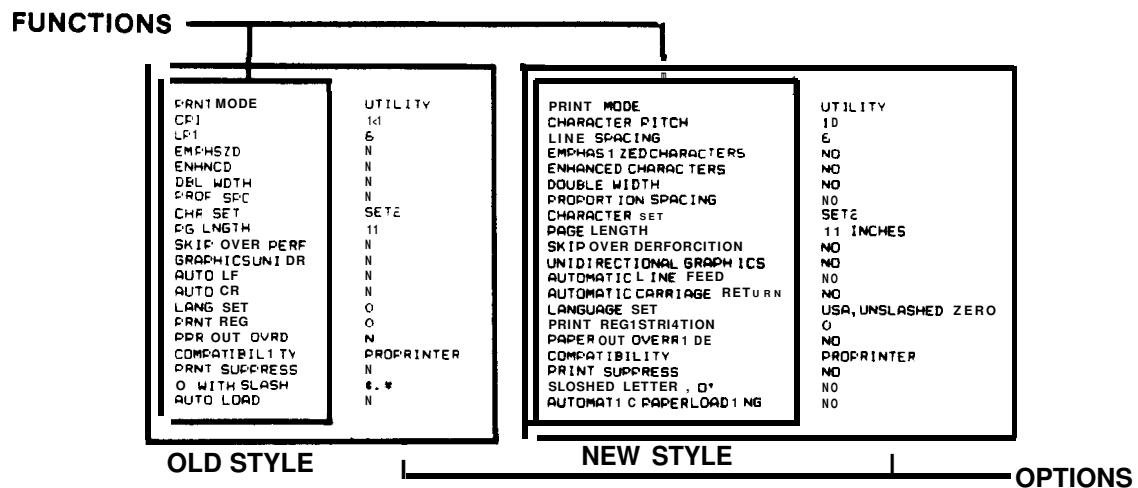
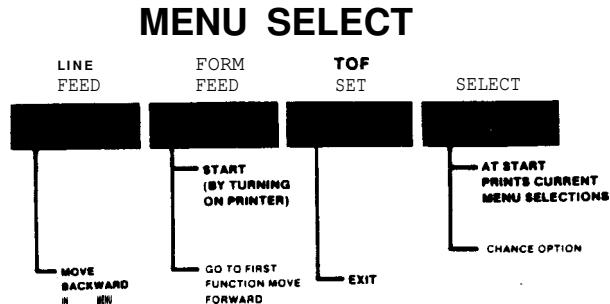

Figure 6-5. Printer Options
Figure 6-6. Reference Diagram
3. Press the **SELECT** button. The printer will print one of the two option lists (see Figure 6-5). This list is how the printer was set when it left the factory. You might have to change the factory setting to agree with the appropriate list below.
4. To set the options for each function as shown above, press the FORM FEED button to begin with the first function (**PRNT MODE** or **PRINT MODE**) and to move down the menu. Use the **SELECT** button to select the proper option (see appropriate Menu in Figure 6-5 for option settings). Figure 6-6 shows the Printer's control switches and their functions.
The following reference diagram (figure 6-6) provides information on using the Printer Menu Select mode and line feed feature.
4. A test pattern (figure 6-6) similar to that below will printout. To stop the self test, turn OFF the Printer or press the SEL button to Select the Printer.